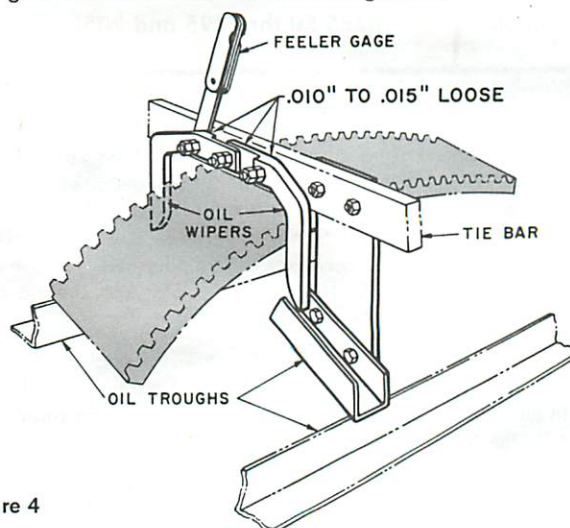

Figure 4
OPTIONAL EQUIPMENT—The oil wiper assembly in Figure 4, the oil dam in Figure 2 and the oil pan are considered part of the housing after Factory assembly and should not be removed. To add an oil pan, refer to Page 6 for instructions.
- OIL WIPER**—Figure 4. (When Required)
- Adjust oil wiper fasteners to give .010" to .015" clearance as shown in Figure 4 so wipers slide freely on gear rim.